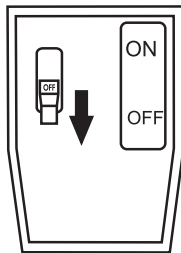

Figure 14. Power OFF/ON Switch (OFF Position)
1. Make sure the power ON/OFF switch (Figure 14) located near the bottom of the mast is in the **OFF** position.